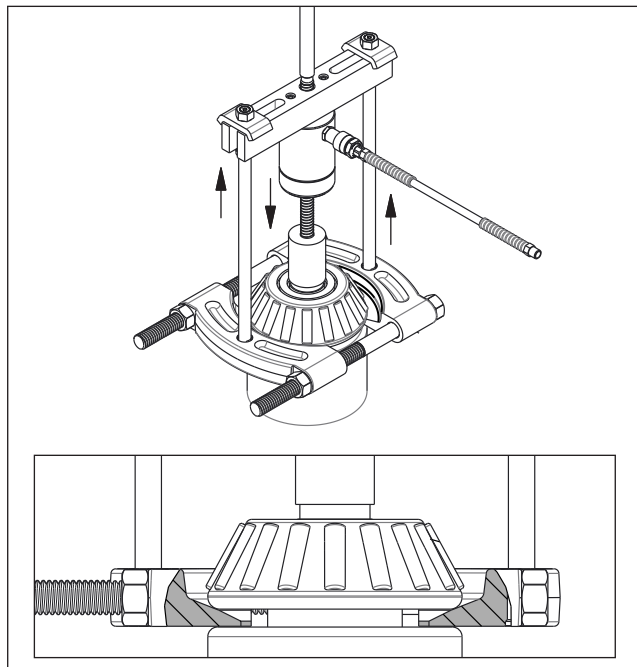

Figure 12, Bearing Separator Attachment - "B" Orientation (typical)
in Figure 12. In this orientation, the *recessed* side of each separator half is positioned against the part to be removed.
- Install the puller on the bearing to be removed. Align puller legs and bearing cup puller jaws. See Figure 12.